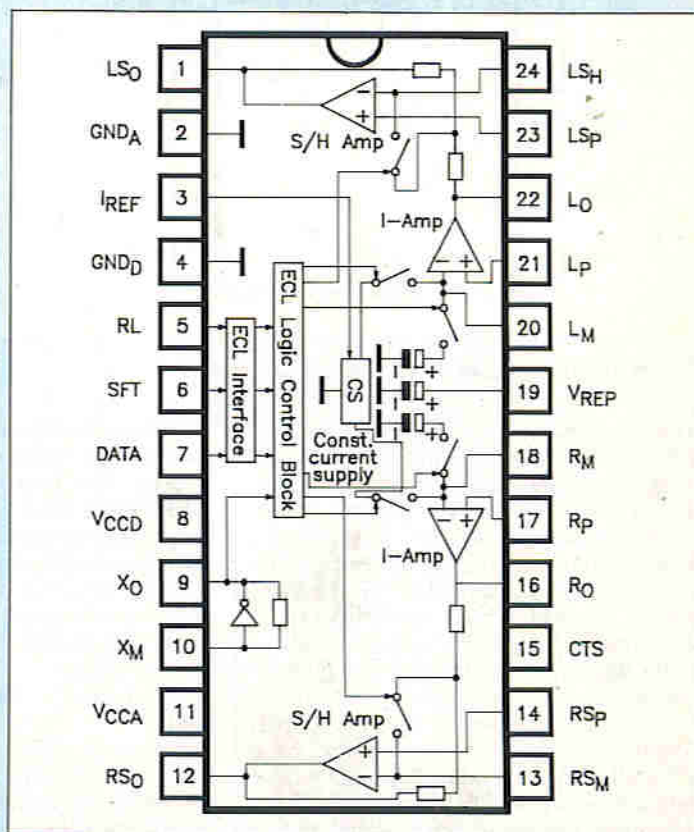

Figure 1a. TD6710AN.
As can be seen from Figures 1a & 1b there are three integrated circuits (IC). TA8662N, Quadrant Phase Shift Keying (QPSK) demodulator developed for audio subcarrier signal systems. This chip generates parallel-serial transformed digital data and required clock signals. TC6011N, Pulse Code Modulation (PCM) decoder. Receiving the digital outputs of the QPSK chip, this IC generates the digital sound data for the DA converter, reception mode display and sound output selection. TD6710AN, 14-bit Digital to Analogue (DA) converter with dual channel audio outputs.